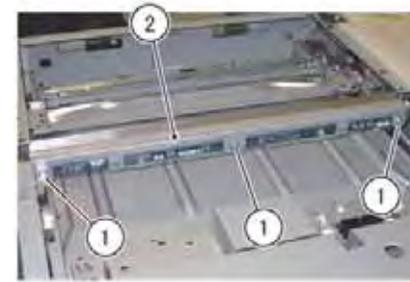

Figure 2 LED Bracket
6. Remove the LED Bracket (Figure 2)